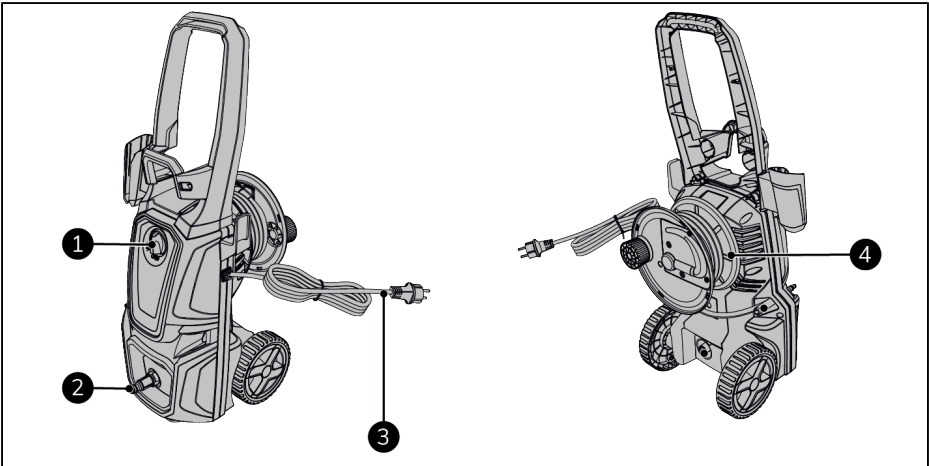

Figure 30.
2. Make sure the ON(I)/OFF(O) switch is in the OFF(O) position (Figure 30, pos. 1).
3. Place the power plug (Figure 30, pos. 3) into a socket that is easily accessible.
4. Unroll the high-pressure water hose from the hose reel (Figure 30, pos. 4).
5. Connect the water supply to the device (Figure 30, pos. 2).